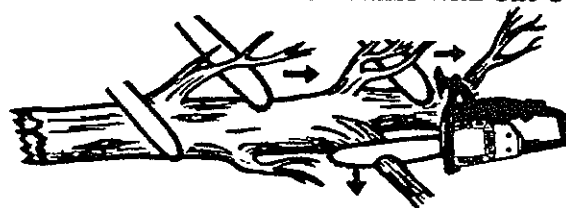

Figure 23
- c. **Start at the base of the felled tree and work toward the top, cutting branches and limbs.** Remove small limbs with one cut. Figure 23.